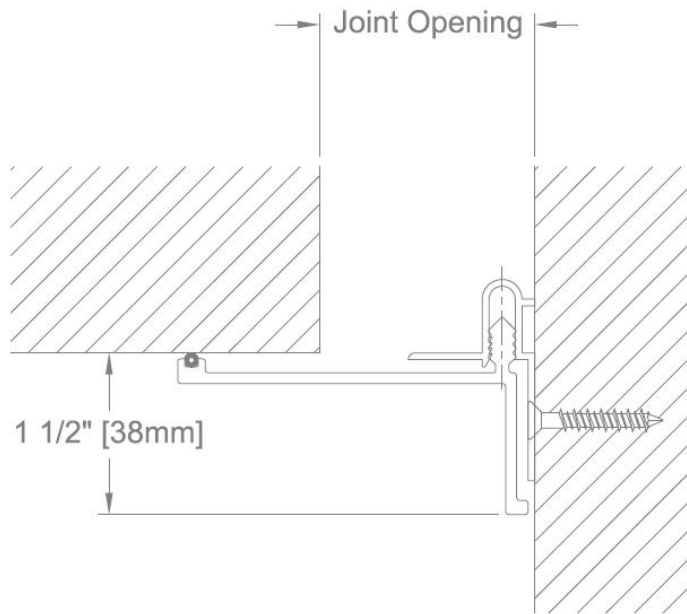

FIGURE 8
- Once installation of joint covers is complete, use proper cleaning solutions (by installer) to clean joint covers. Final installation should appear as shown in **Figure 8**.